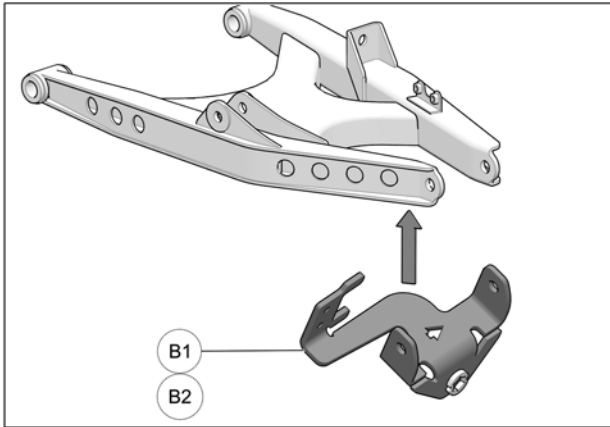

Fig. 5
5. Bring anchor bracket (**B1-B2**) up to lower suspension arm. See Fig. 5